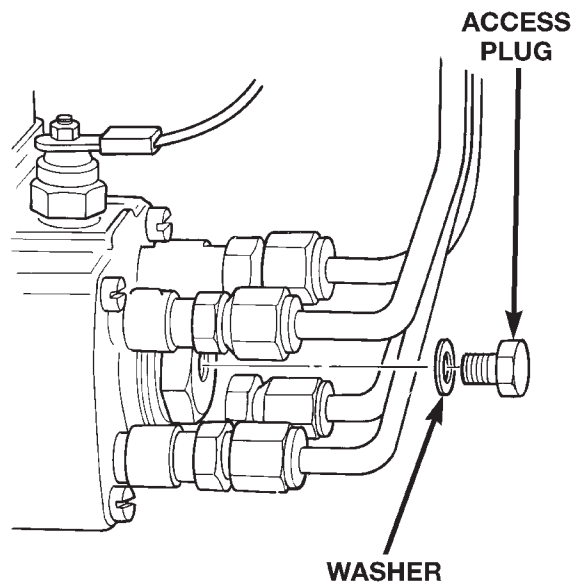
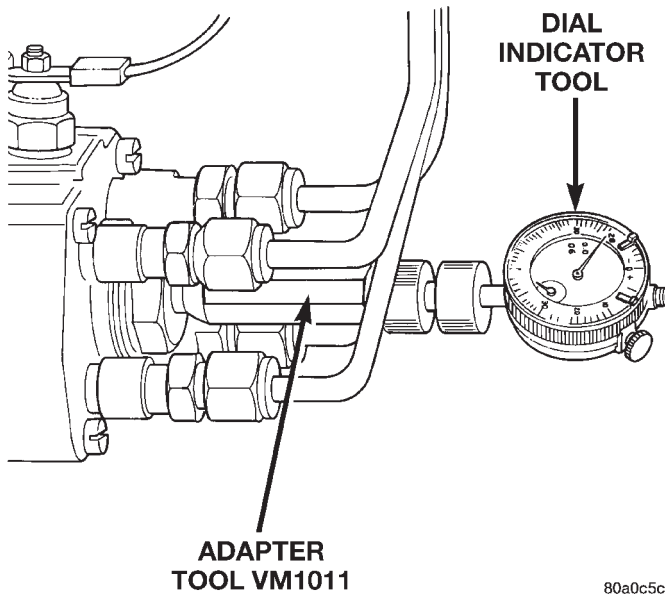

Fig. 27 Access Plug at Rear of Pump
Fig. 28 Installing Dial Indicator and Special Adapter Tools
(15) Remove access plug and plug washer at rear of pump (Fig. 27). Thread special dial indicator and adapter tool VM# 1011 (Fig. 28) into this opening. Hand tighten only.